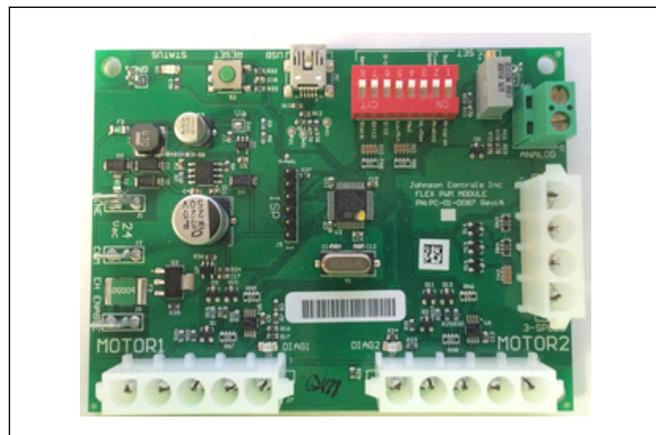

Figure 31 – G3 PWM Board
- a. Locate the G3 PWM board within the control enclosure (See Figure 31).